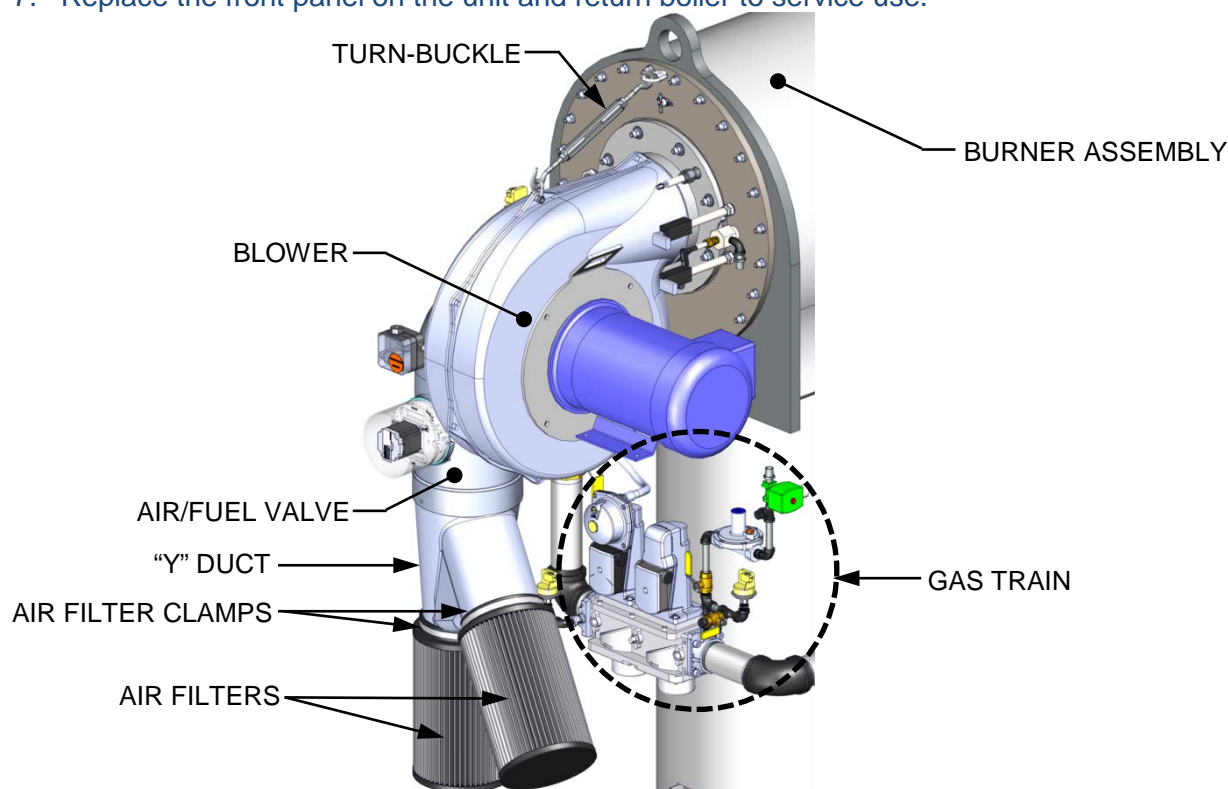

Figure 7-11: Air Filter Location and Removal
The Benchmark boiler is equipped with two (2) air filters (part no. 88014) which should be cleaned and re-oiled every 12 months, or as needed if combustion air is dirty, and replaced every 24 months. The air filters are attached to a “Y” shaped duct connected to the inlet of the air fuel valve as shown in Figure 7-11. To inspect/replace each air filter, proceed as follows:
3. Refer to Figure 7-11 and locate the air filters attached to the “Y” shaped duct connected to the air/fuel valve inlet.